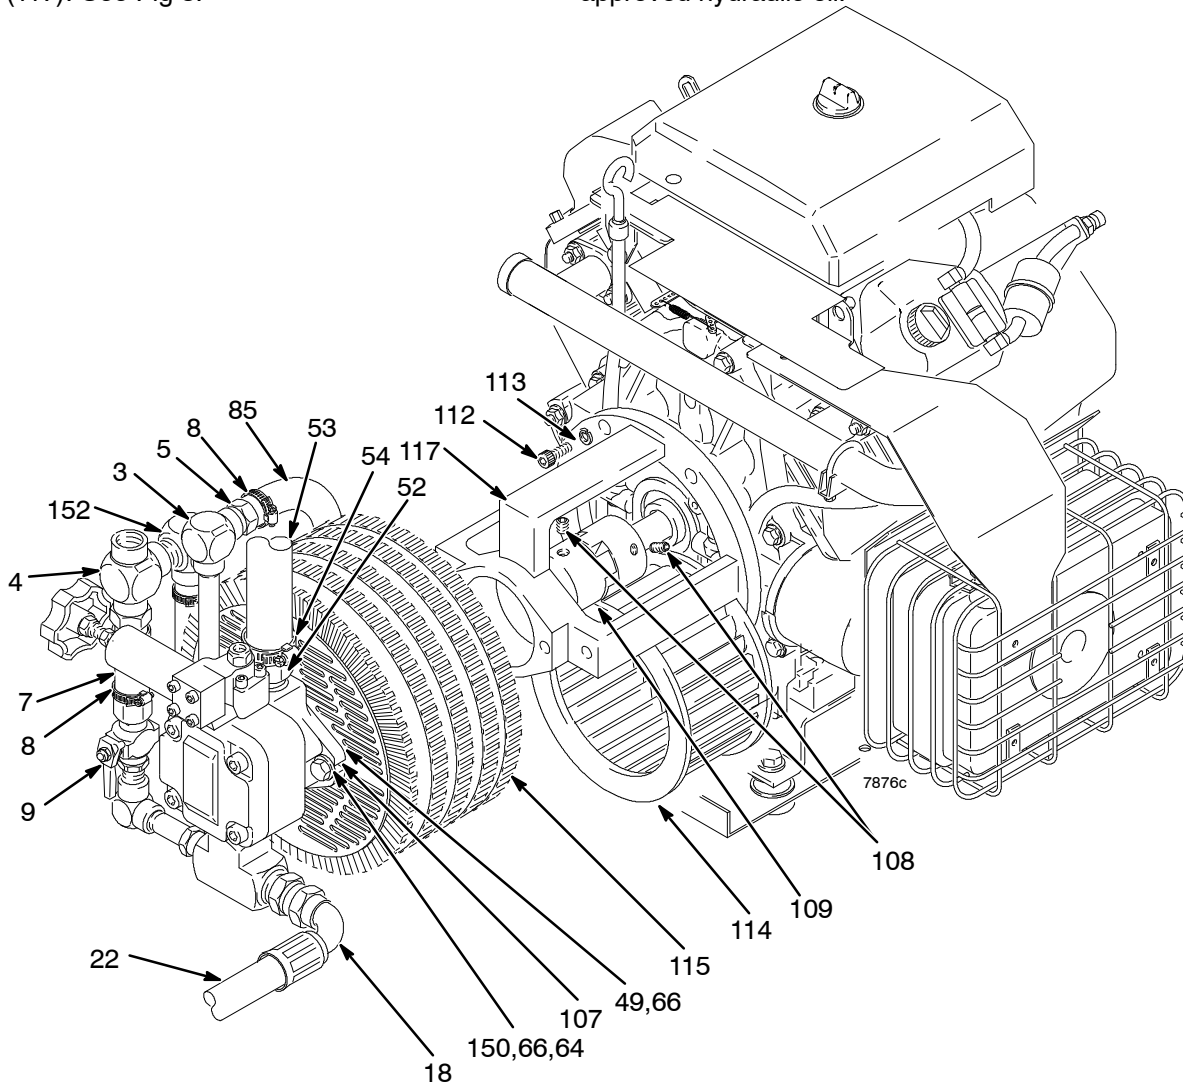
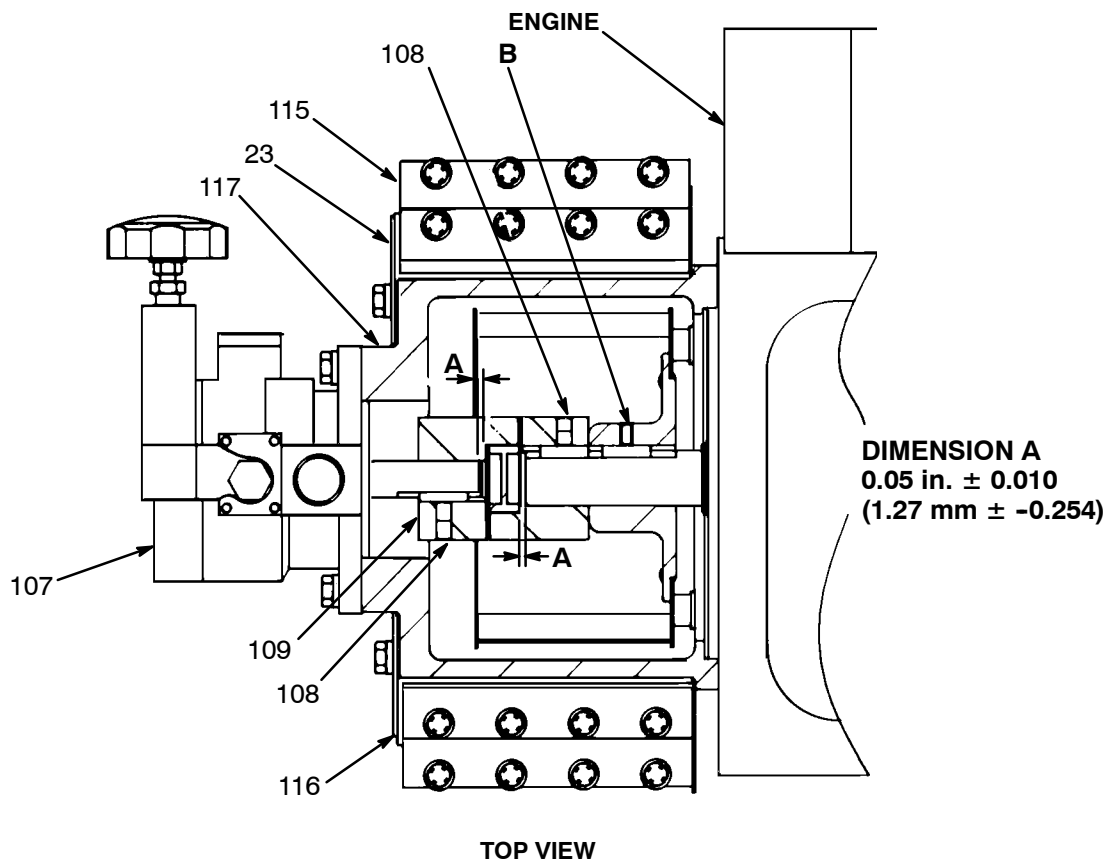

Fig 8
Fig 9
3. Disconnect the hose (7) from the bypass valve (9) by loosening the hose clamp (8). See Fig 8.
4. Loosen the hose clamp (8) and pull the hose (85) off the hose insert (5) near the elbow (3). See Fig 8.
5. Loosen the hose clamp (54) on the hose (53) just above the hydraulic pump (107). See Fig 8.
6. Loosen the tube fitting nut (18) of hose (22). See Fig 8.
7. Remove the two capscrews (150), lockwashers (66) and washers (64) holding the pump (107) to the support (117). See Fig 8.
9. Loosen the setscrews (108) on the pump half of the coupler (109). See Fig 9.
11. Check Dimension A as shown in Fig 9. When the dimension is correct, tighten the setscrews (108), slide the new pump assembly onto the pump support (117) and recheck the dimension.
12. Reconnect the hoses. Reinstall the reservoir plug (51), and refill the reservoir with clean, Graco approved hydraulic oil.
3. Disconnect the cooler to reservoir return hose (7.) by loosening the hose clamp (8). See Fig 8.
4. Remove the cooler capscrews (49) and lockwashers (66). See Fig 8.
5. Remove the fan guard (23, page 36). See Fig 8.
6. Pull the cooler (115) straight out.
7. Inspect the rubber pad (116) for wear and replace if necessary. See Fig 9.
8. Inspect the blower wheel (114) for wear. See Fig 8. If it needs to be replaced, follow Steps 8a-8e.
- a. Unscrew the setscrews (108) from the engine half of the coupler (109). Unscrew the blower setscrews (B). See Fig 9.
- b. Remove the capscrews (112) and lockwashers (113) holding the pump support (117) to the engine and pull the support off. See Fig 8.
- d. Install a new blower. Secure the pump support (117) to the engine. See Fig 8.
- e. Check Dimension A as shown in Fig 9 and tighten the coupler setscrews (108). Butt the blower hub up to the coupler half, keeping the blower in full contact with the coupler, and tighten the blower setscrews (B).
10. Fold the flaps of the pad (116) toward the cooler fins and install the fan guard (23, page 36), capscrews (49) and lockwashers (66). See Fig 8.